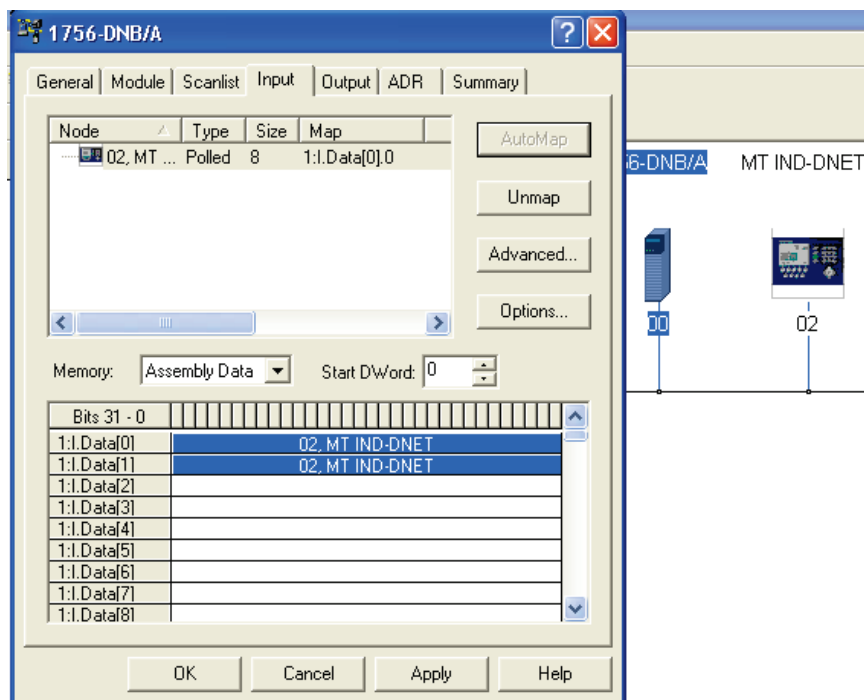
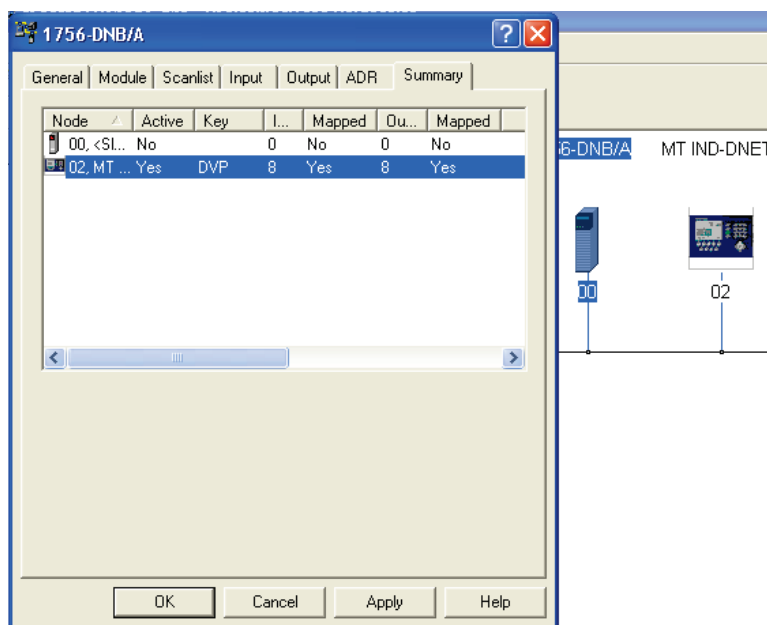

Figure 3-21: IND Terminal Mapping
Figure 3-22: Summary Tab
11. Once the IND Terminal has been added to the scanlist, access the Properties dialog to verify its I/O mapping (Figure 3-21 and Figure 3-22) within the scanner card. Note that auto or manual mapping can be used. Consult the master's documentation for advance I/O mapping options. If manual mapping is used. Be sure to start with an unused section of memory for offset.